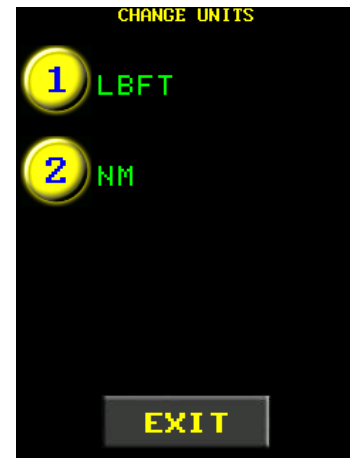

Figure 5.2-2: Select Units
3. Select the desired units from the units menu (Figure 5.2-2).